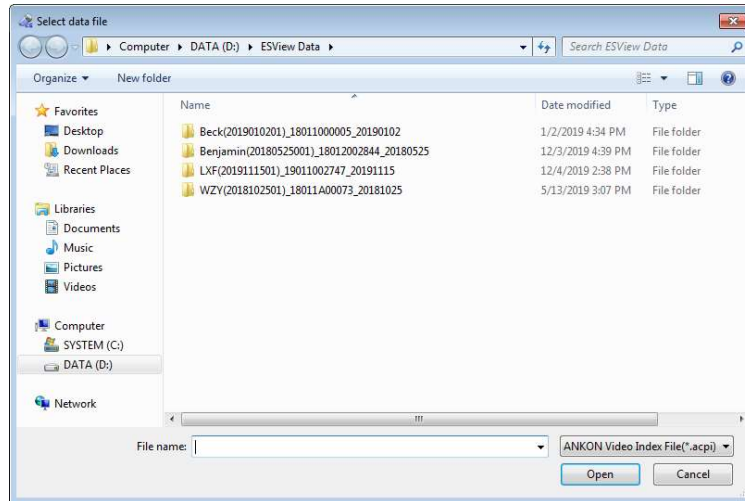

Figure 4-8: Patient Data File Selection Interface
1. In the main software interface, select “File”→“Open video” to access the patient data file selection interface (Figure 4-8). The default path is the data export path.